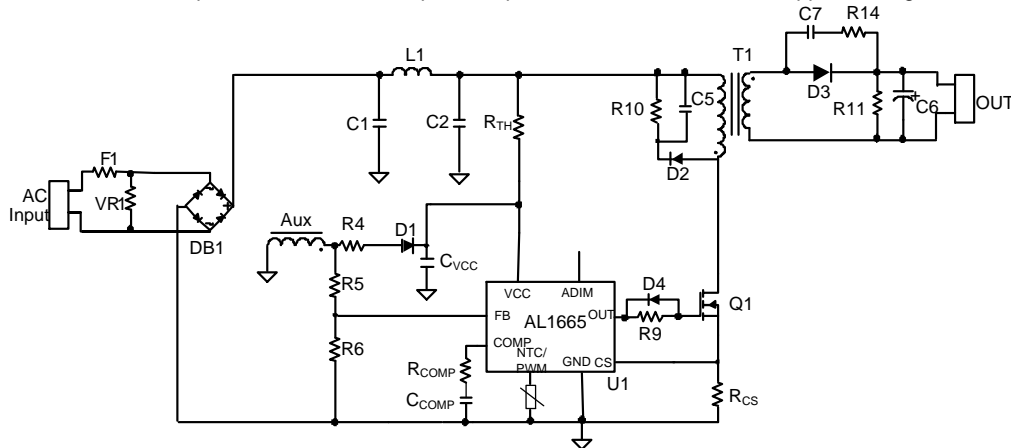
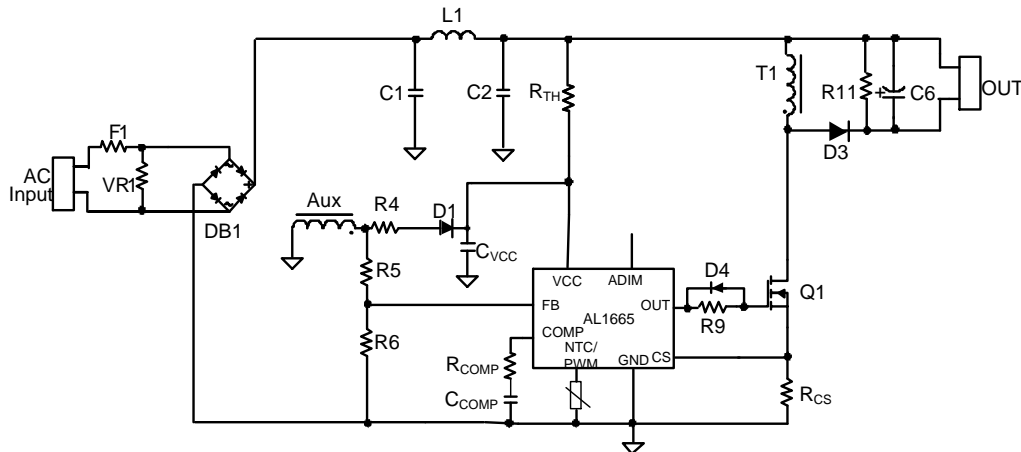

Figure 1. Flyback Application Circuit
Figure 2. Buck-Boost Application Circuit
Where VCOMP\_ST is the pre-charged voltage of COMP pin. Figure 1 shows RCOMP.
- R5 and R6 shown in Figure 1 are divider resistors connected from the auxiliary winding
- RCS is current sense resistor, which is shown as Figure 1
- $R_{CS}$  is the current sense resistor, which is shown in Figure 1
- $R_{CS}$  is the current sense resistor, which is shown as Figure 1 and Figure 2